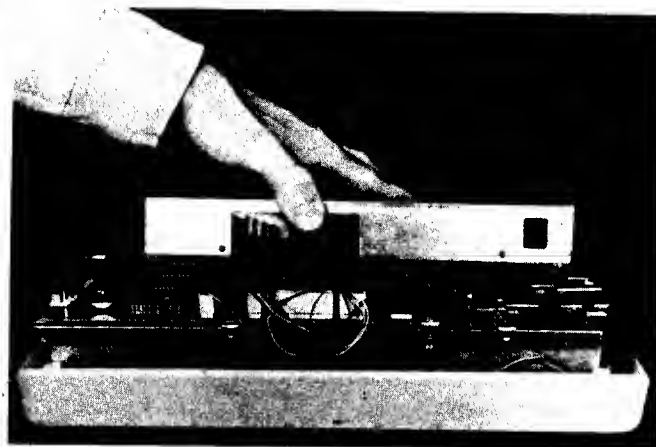

Fig. 5-13. Removing the metal drive electronics shield.
10. Remove the metal shield as shown in Fig. 5-13.